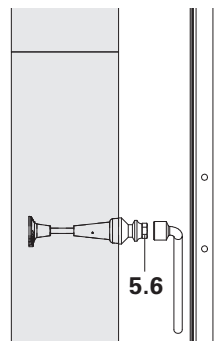

Fig. B1.31
3. Loosen scaffold mounting ring and Bolt M24 x 120 (5.6) on the previous concreting segment with Socket Wrench SW 36 and remove. (Fig. B1.31)
3. Loosen scaffold mounting ring and Bolt M24 x 120 on the previous concreting segment with Socket Wrench SW 36 and remove. (Fig. B1.31)